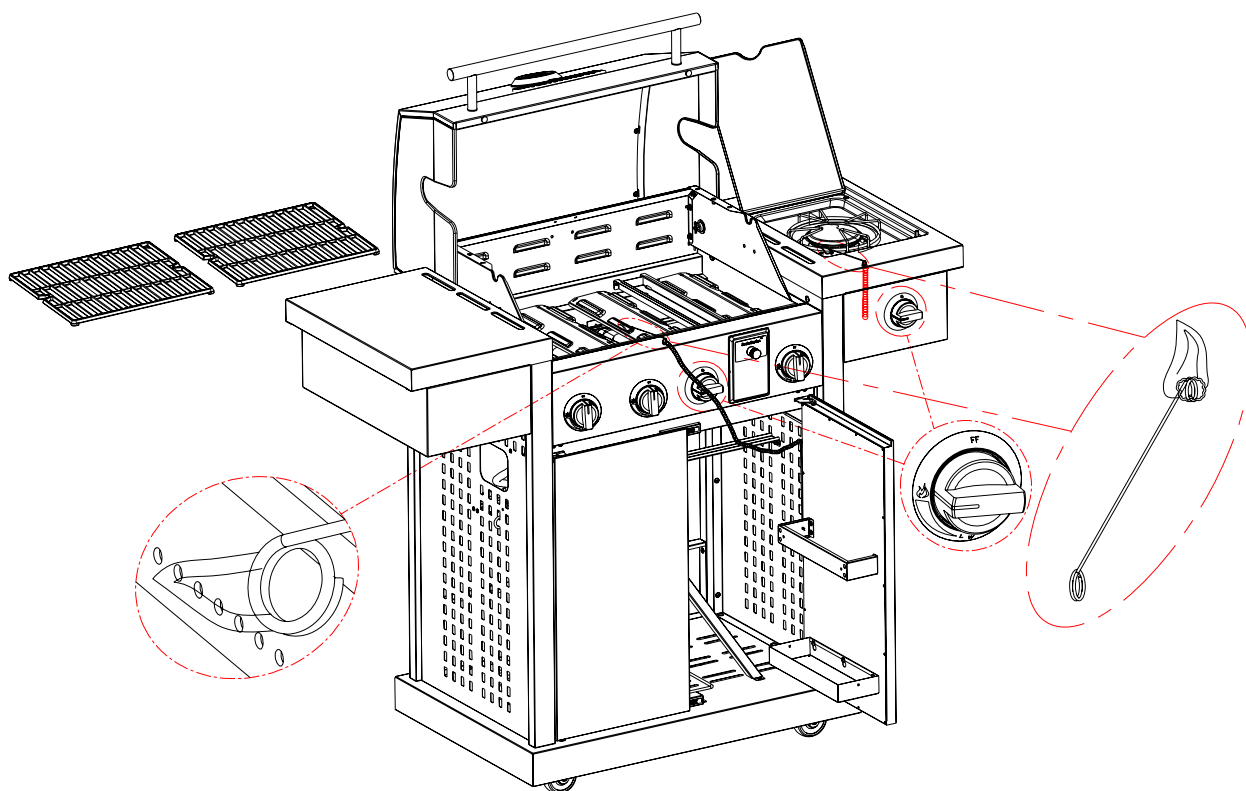

Fig.18
3. Turn a control knob to the ignite position (🔥) as shown in Fig.18.
4. Remove match holder from knot on side of base. Place a lighted match between the coils on the end of the match holder and hold next to the burner to ignite as shown in Fig.18. If ignition does not occur in 5 seconds, turn the burner control knob OFF and contact Consumer Affairs.